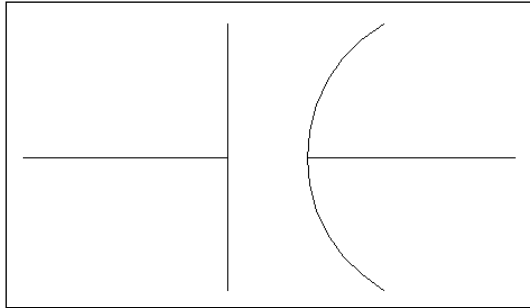

Figure 10-23: The completed capacitor symbol.
5. Save your drawing. It should look like Figure 10-23.